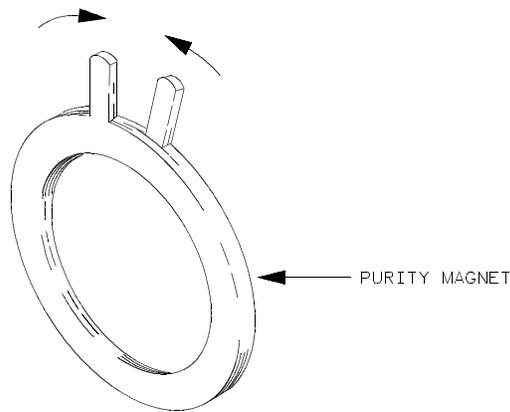

Figure 4-15. Purity Magnet Centering
magnet tabs to mechanical center. See figure 4-15.
7. Adjust the purity magnets until green is in the center of the raster with red and blue bands evenly distributed on the sides. See figure 4-15. The purity magnets need no more than $\pm 15^\circ$ movement from the mechanical center.